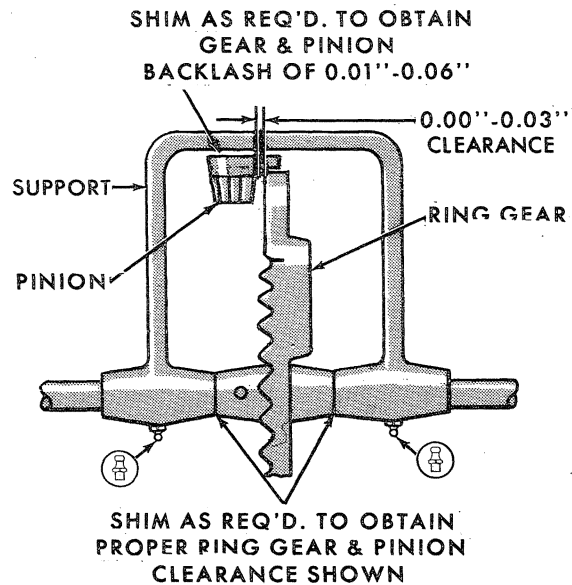

Figure 87
A 0.00"–0.030" clearance should exist between the flat face of the twister drive gear and the cam follower bearing, Figure 87. Check and adjust the dimension as follows:
1. Measure the clearance between the flat face of the twister drive gear and the cam follower bearing, Figure 87. A 0.00"–0.030" clearance should exist.